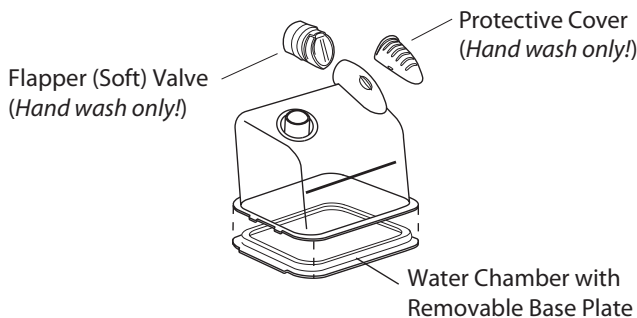

FIGURE 7-1 CLEANING THE WATER CHAMBER
Refer to Figure 7-1 when cleaning the water chamber.
8. Reassemble the water chamber. Make sure the base plate is fully seated on the water chamber. Also, make sure you install the flapper valve properly into the air inlet port of the water chamber. See Figure 7-1.